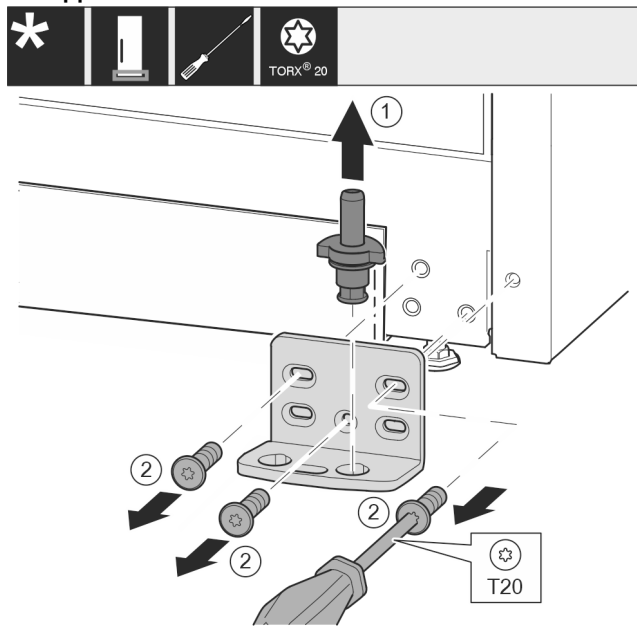

Fig. 12
- Lift the bearing pin completely upward and remove it. Fig. 12 (1)
- Remove the screws with the T20 screwdriver and take off the bearing bracket. Fig. 12 (2)